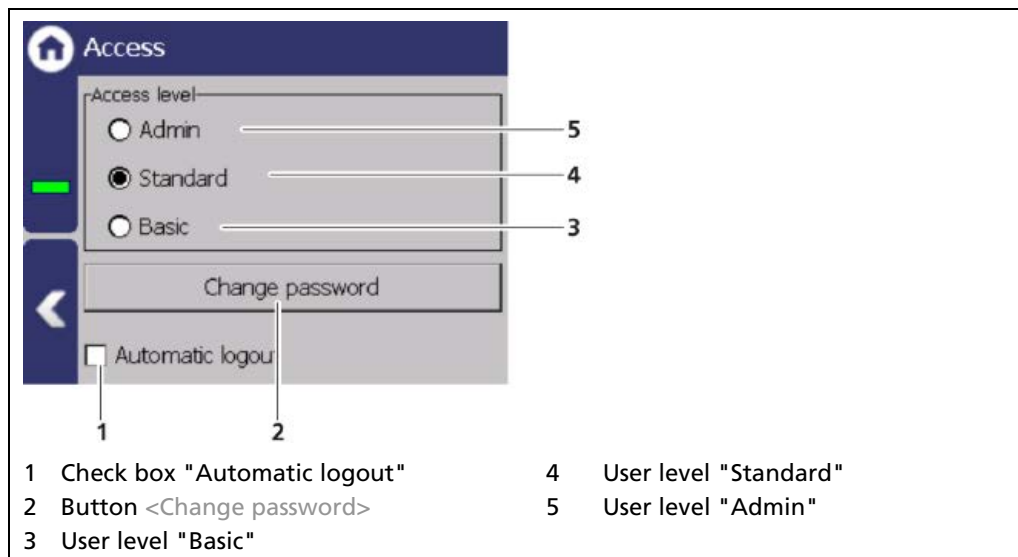

Fig. 26 Access
Activating the selection box (Fig. 26, item 1) automatically resets the access level "Standard" to "Basic" when the system changes to the standard display after the timeout.
- ▶ Protect the measuring system from unauthorised entries with a password and activate the function "Automatic logout" (Fig. 26, item 1).
To set or change a password, select "Standard" (Fig. 26, item 4) and click on <Change password> (Fig. 26, item 2) to open the input field.